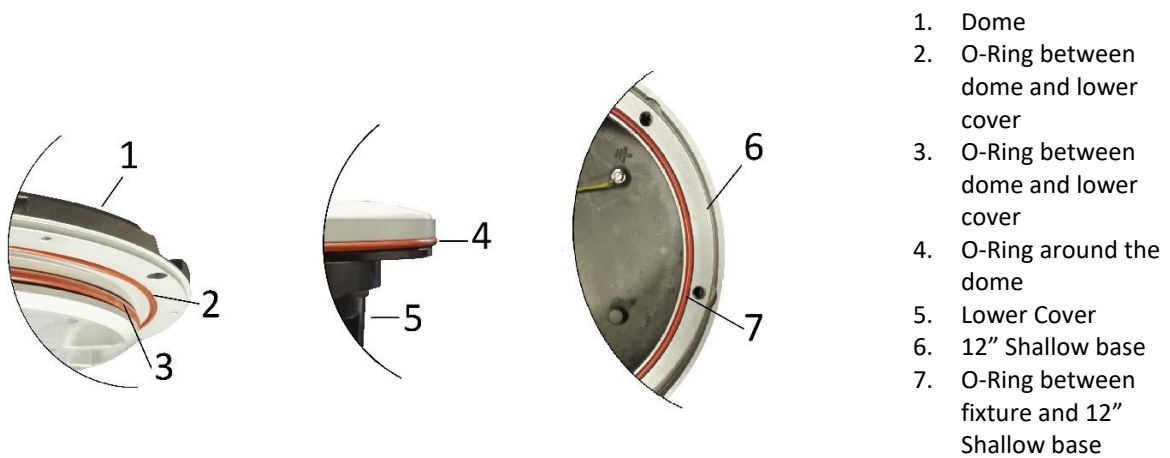

Figure 18 – Fixture Gaskets
- O-Rings between dome and lower cover (Figure 18– n°2 and 3);
Verify the correct position of the two O-Ring between dome and lower cover (Figure 18– n°2 and 3); mount the lower cover on the dome and fasten it by means the six screws TORX SFH M5x10 (Figure 16- n°1). One drop of anaerobic adhesive lower type (e.g. LOXEAL 24-18) should be applied to the screws before installation; tightening torque is 2.5 Nm.
- O-Ring around the dome (Figure 18– n°4);
- O-Ring between fixture and shallow base (Figure 18– n°7);